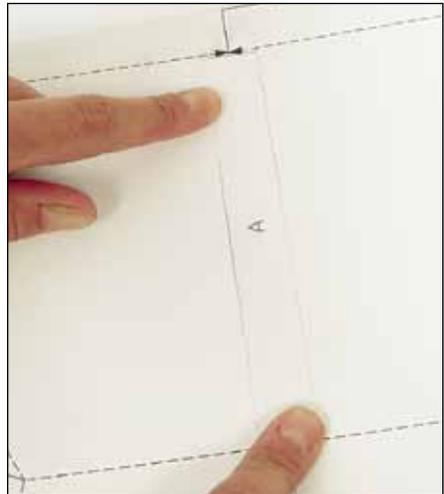

Figure 3
3. Take Part A and glue it over the centerline of Section A (Figure 3). Continue by gluing Part B over the centerline of Section B and Part C over the centerline of Section C. It doesn't matter whether the parts are glued with the shiny or white side facing down.